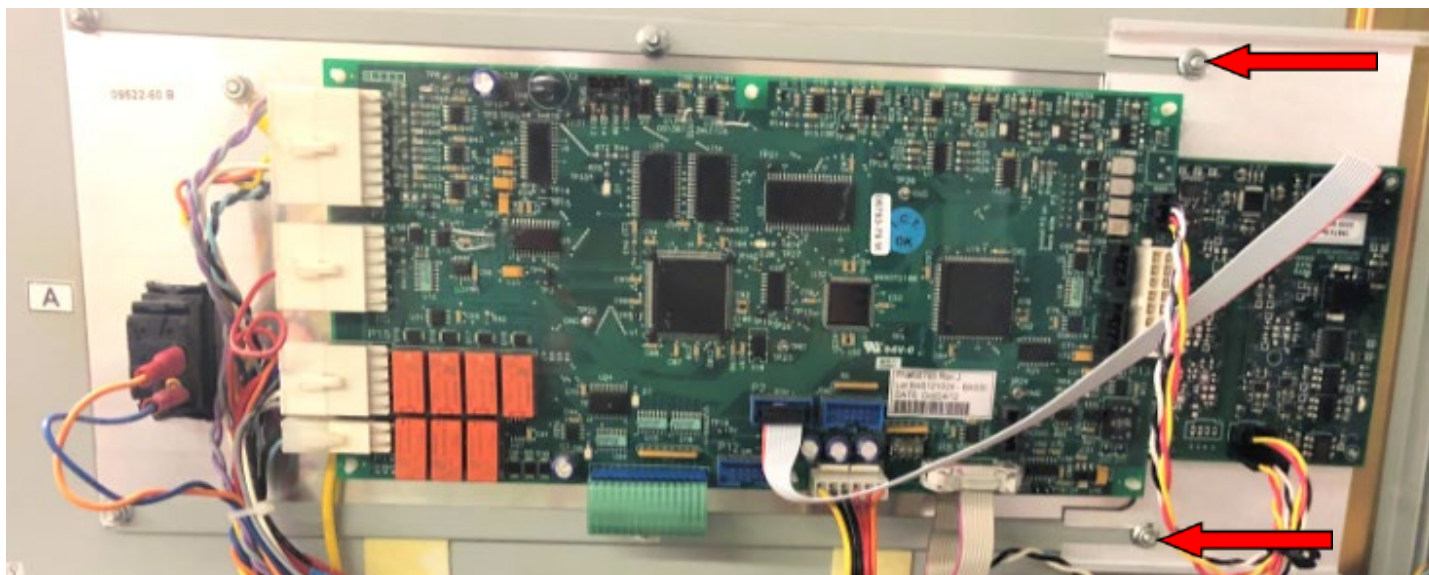

Figure 5 DVS100/DVS150 Channel A Control Board Assembly
- 4.3.1. Loosen the two top- and bottom-right nuts from the DVS100/DVS150 control board assembly (Channel A) (Figure 5).
- 4.3.2. Place the DVS100/DVS150 CAN board assembly on the Channel A of DVS100/DVS150 control board assembly, over the loosened nuts, and slide the CAN board toward the control board, as shown in Figure 5 approximately, and tighten the two nuts.